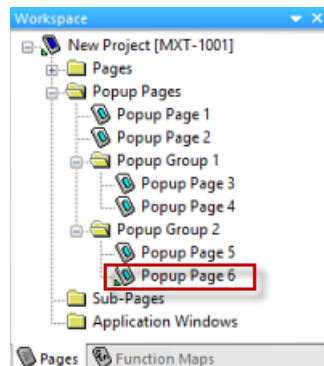

FIG. 63 Workspace window (Pages tab) - Indicating Popup Groups
4. Click **OK** to add the new Popup Page and Group to the active project. The Popup Page and Group are indicated in the Workspace tab (FIG. 63):